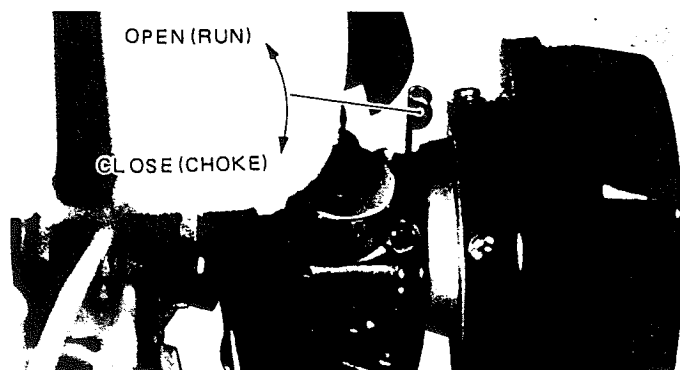

Figure 8
3. The choke control is a "Lever" type. (See Figure 8). To choke the engine, push the choke lever to "CLOSE" (CHOKE) position. NOTE: If the engine is warm, it may be started with the choke lever mid-way between "OPEN" (RUN) and "CLOSE", depending on the individual engine. Figure 8.